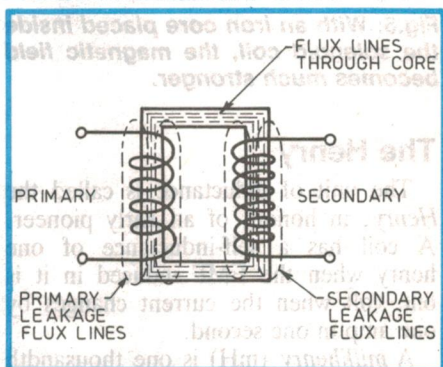

Fig.10: Even though an iron core is coupling two windings, each will have its own 'leakage' field.
(1) **MAGNETIC LEAKAGE:** Some of the flux lines produced by the primary winding current (see Fig.10) 'miss' the secondary winding(s), and take shorter paths. The result is that the voltage output of the transformer is slightly reduced. The primary flux that *doesn't* pass through the secondary is known as *primary leakage flux*. To minimise this effect, the transformer coils are often wound 'on top' of each other (Fig.8).